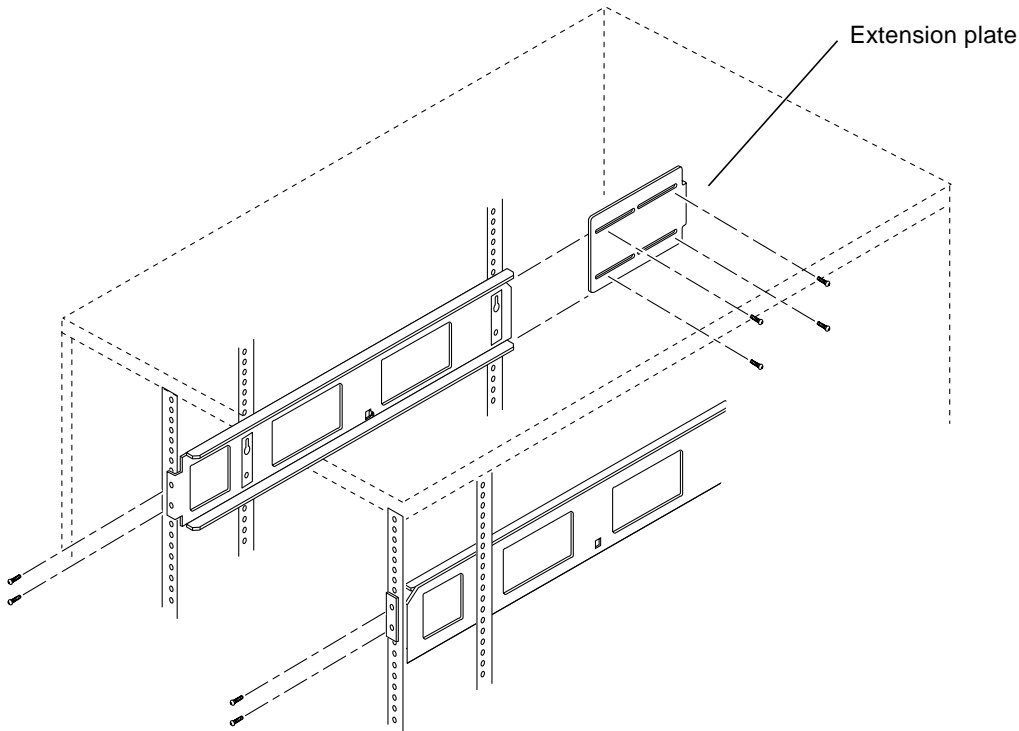

FIGURE 1 Attaching the Extension Plate
- 2. Align the extension plate with the side rail at the back of the cabinet as shown in FIGURE 1, and secure the extension plate with the four screws provided.**